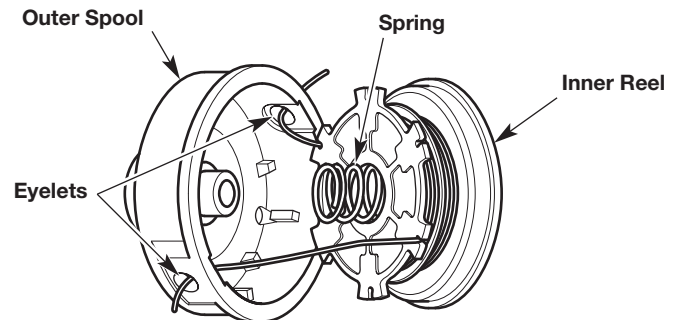

Fig. 22
1. Pass the two line ends through the eyelets in the outer spool (Fig. 22).
2. Place the spring inside the inner reel (Fig. 22).
3. Insert the inner reel into the outer spool (Fig. 22). Push the inner reel and outer spool together.